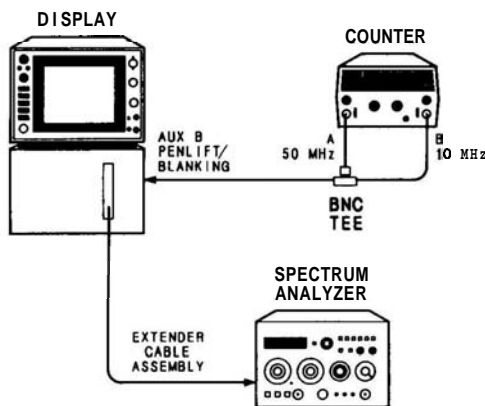

FIGURE 5-2. CALIBRATED SWEEP TIME ADJUSTMENT TEST SETUP
- 2. Connect equipment as shown in Figure 5-2.